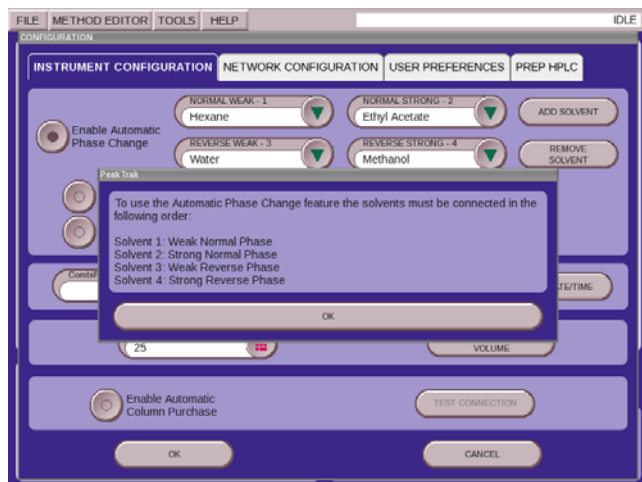

Figure 1: Reminder of the order of solvents
2. On the INSTRUMENT CONFIGURATION tab, push the ENABLE AUTOMATIC PHASE CHANGE button. The system will remind you of the order that solvents must be installed (Figure 1).